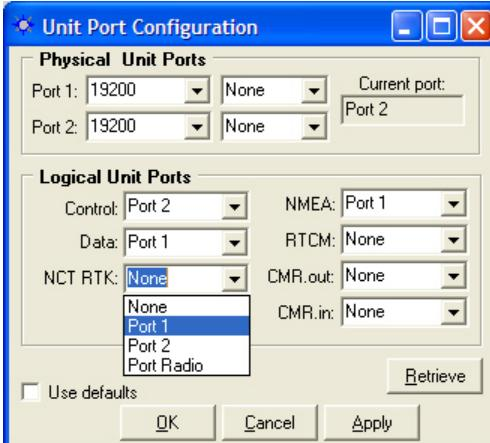

Figure 40: Rover – NCT RTK Port Configuration
Refer to Figure 40 for the steps below:
- **Unit Port Configuration Button:** This button opens the *Unit Port Configuration* window (see Figure 40).